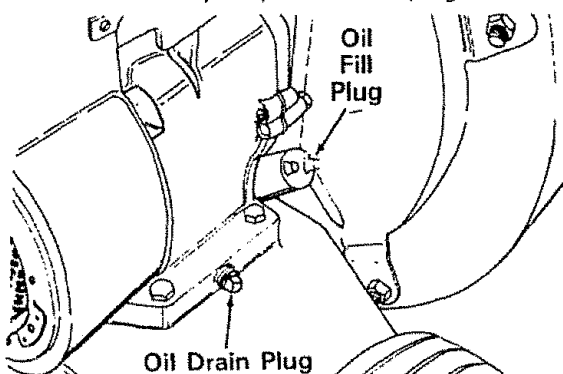

FIGURE 7.
- a. Remove engine oil fill plug. See figure 7.
Your four cycle engine will normally consume some oil; therefore check engine oil level regularly - approximately every five hours of operation and before each usage. Stop engine and wait several minutes before checking oil level. With engine level, the oil must be even with the oil fill (refer to figure 7). Change engine oil after the first two hours of operation, and every twenty-five hours thereafter.
- a. Remove oil drain plug. Refer to figure 7.